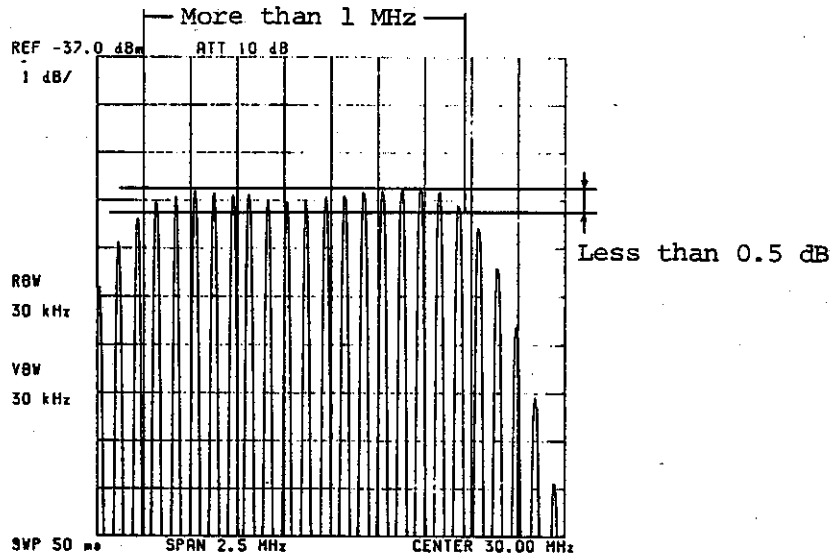

Fig. 11-55 30 MHz (three stage) B.P.F. adjustment
- (d) Using the external spectrum analyzer with the high impedance probe, observe the signal response at the connection between C355 and C356. Press B, then use the DATA knob to change the Step FM setting. Adjust C342, C343, and C344 so the observed 30 MHz (three stage) B.P.F. response has a 1 MHz 0.5 dB bandwidth and a maximum level of about 30.00 MHz is attained. (See Figure 11-55.) Step FM will change in 2 kHz steps. If a smaller frequency stepping is desired, press c.